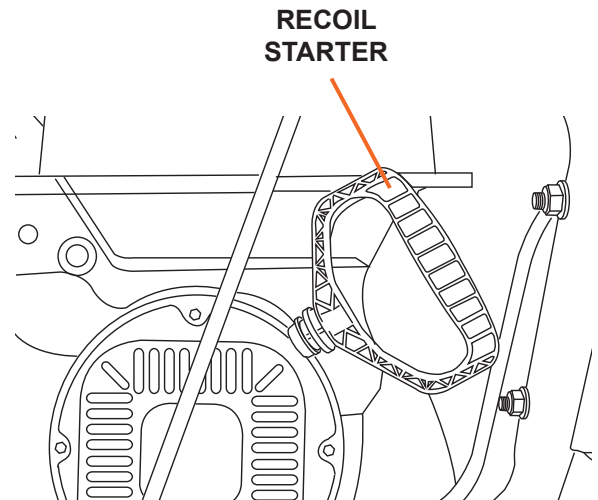

Figure 10
3. Grip the recoil starter handle and pull slowly several times to allow the gasoline to flow into the engine's carburetor (see Figure 10). Then pull the recoil starter handle gently until resistance is felt. Allow cable to retract fully and then pull it quickly. Repeat until the engine starts.